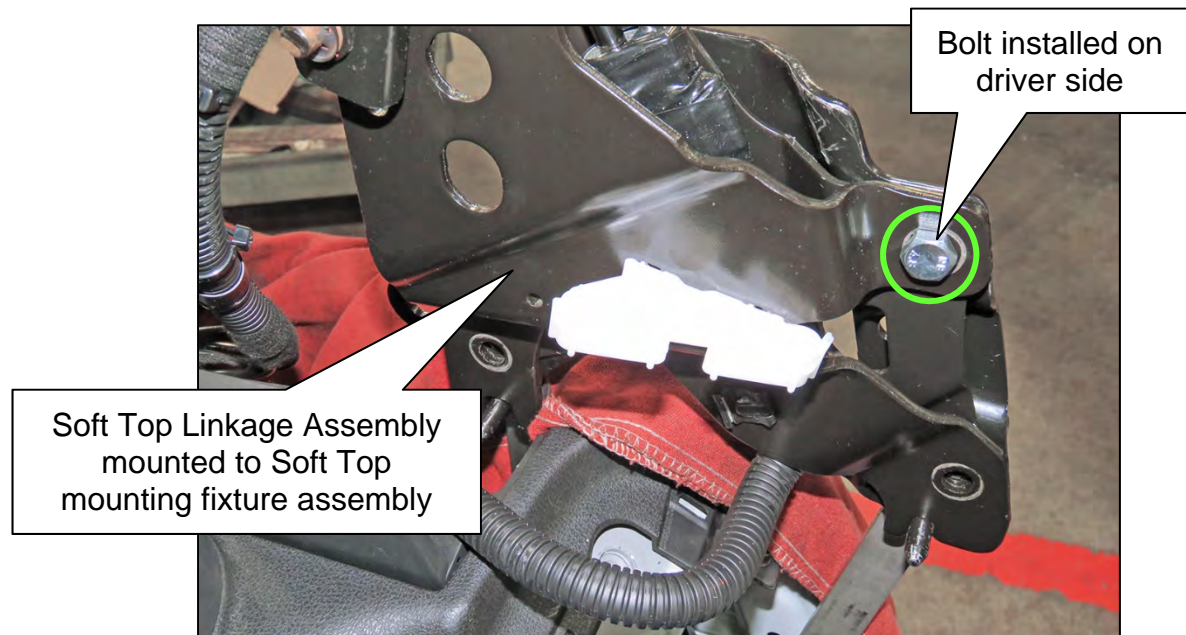
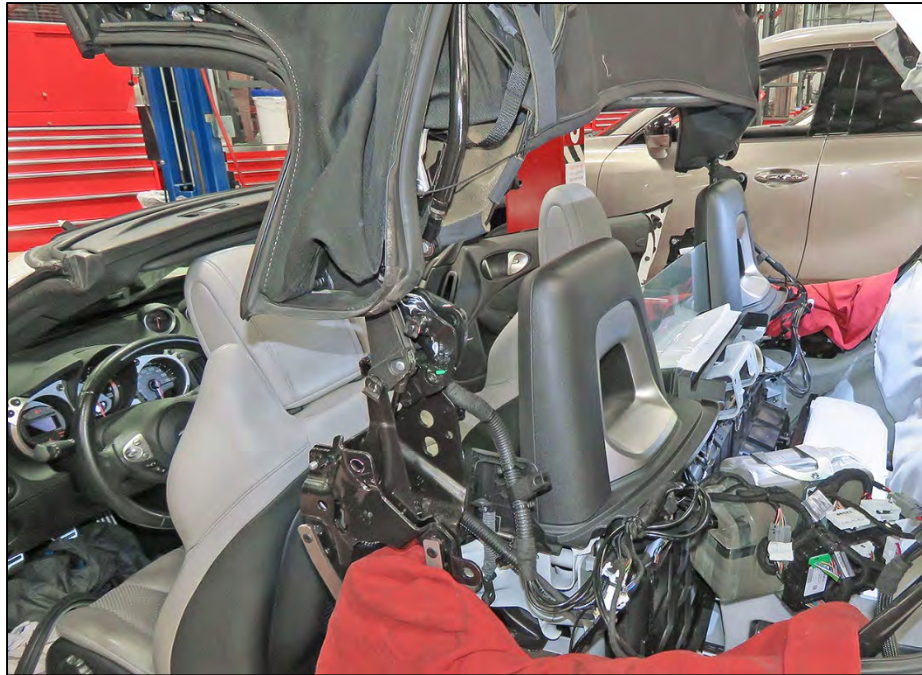

Figure 164
Figure 165
173. With help from a coworker, lift the Soft Top Assembly and carefully set it onto the soft top mounting fixture assembly, as shown in Figure 164. Also see Figure 165 on page 69.
174. While holding the Soft Top steady, install one (1) of the bolts from the kit on the driver side and one (1) bolt on the passenger side, where shown in Figure 164, to secure the Soft Top Linkage Assembly.
Figure 165 shows Soft Top mounted on Soft Top mounting fixture assembly.